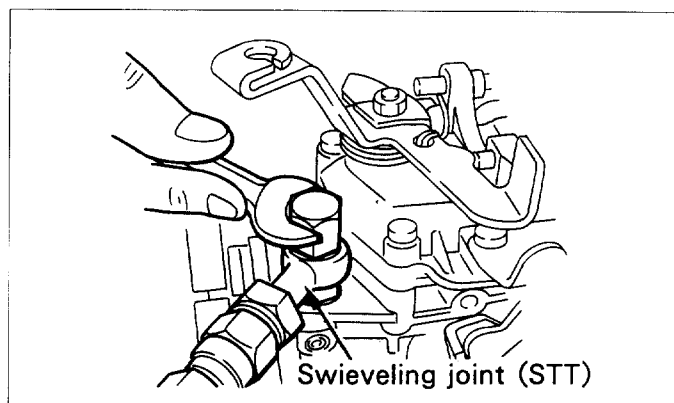

Fig.15-4 Connecting the fuel inlet hose
(5) Connect the fuel supply line to the fuel inlet of the pump. (See Fig.15-4)